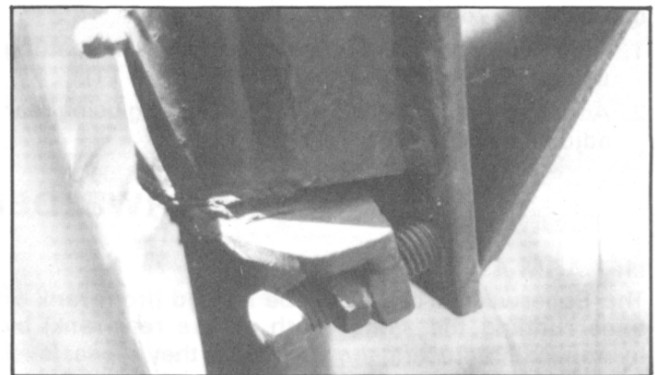

Fig. 32 Transport Wheel “Toe-In” Adjustment
5. With the machine resting on its transport wheels, drive the tractor forward. The wings should fold to trailing (transport) position. NOTE: If the wings do not trail properly, transport wheel “toe in” may need to be adjusted (See Fig. 32).